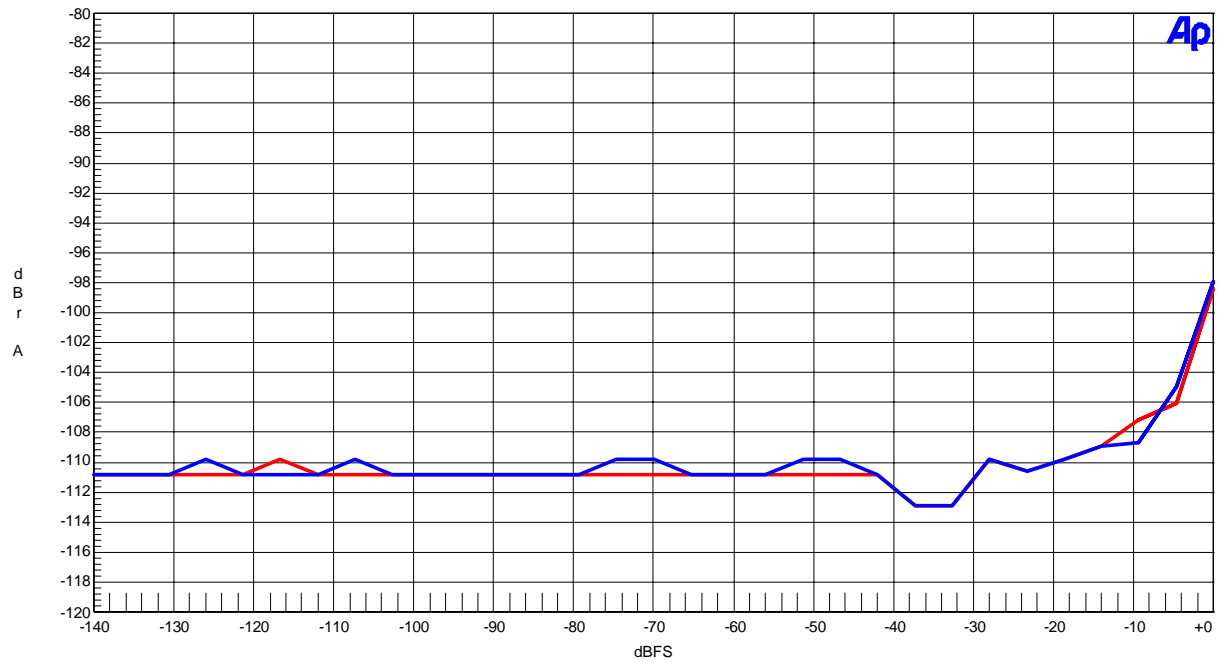

Figure 28. THD+N vs Input Level (Input Frequency=1kHz)
- Figure 28. THD+N vs Input Frequency (Input Level=0dBFS)